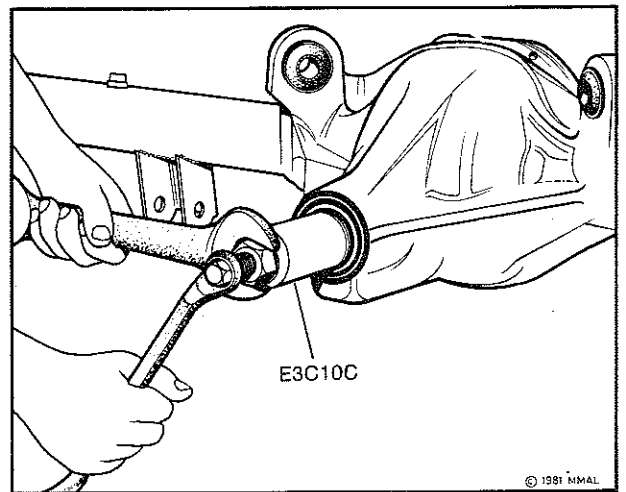

Fig. 15—Removing pinion oil seal
(6) Remove pinion oil seal with tool E3C10C, refer Fig. 15. Examine seal surface of pinion flange for grooving and housing bore for nicks or burrs.